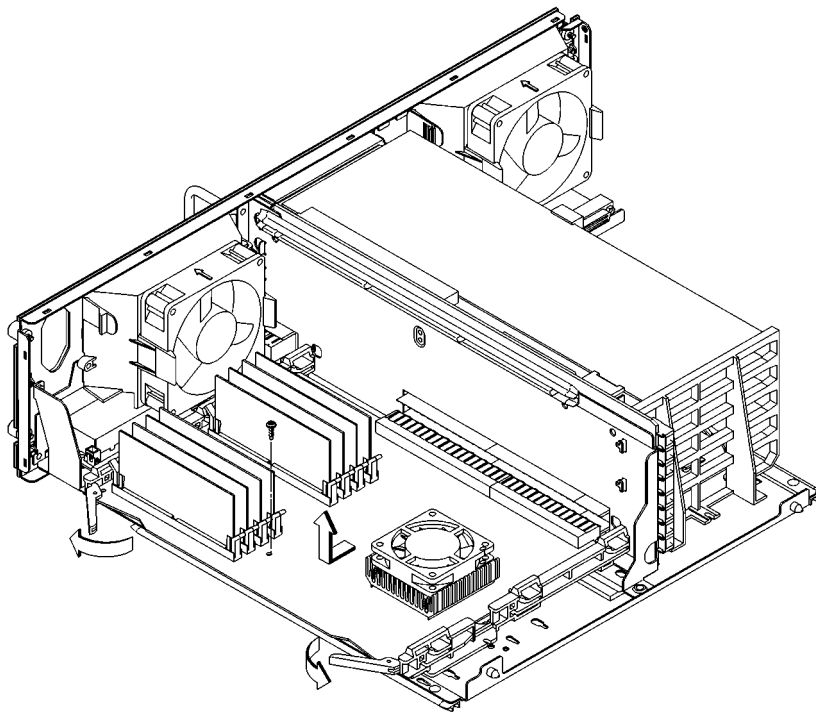
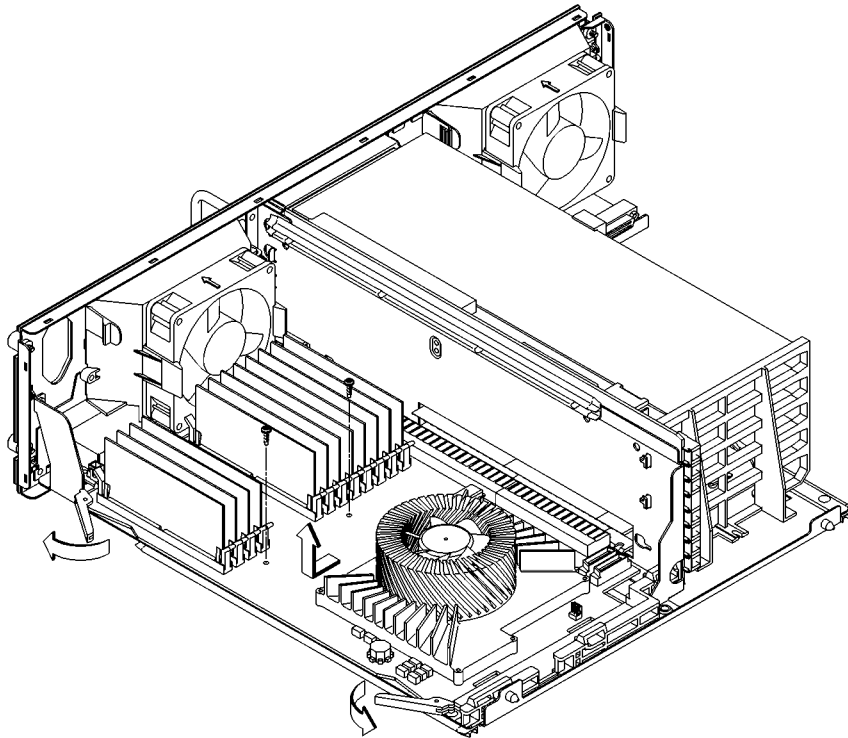

Figure 49 **Removing the CPU Board (C100/110)**
Figure 51 **Removing the CPU Board (C160/180/200/240/360)**
- 2 Remove the CPU board retaining screw, as shown in Figure 49 through Figure 51. (Note that the C160 and C180XP have two retaining screws).